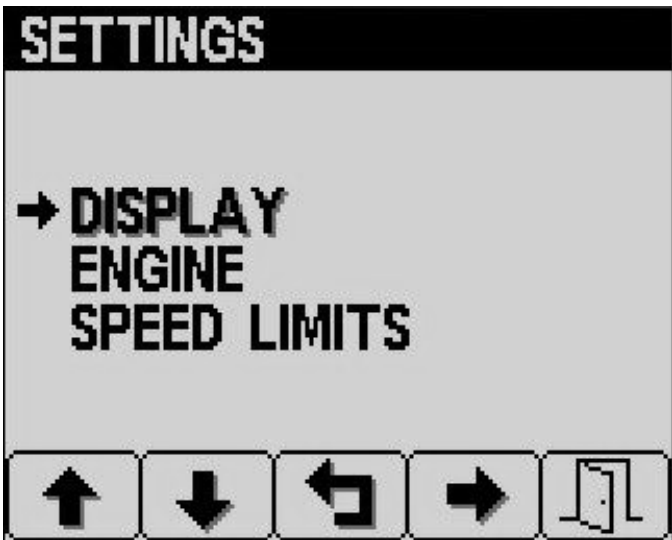

Figure 12
3. From the Settings screen, press button 4 to select Display (Figure 12).